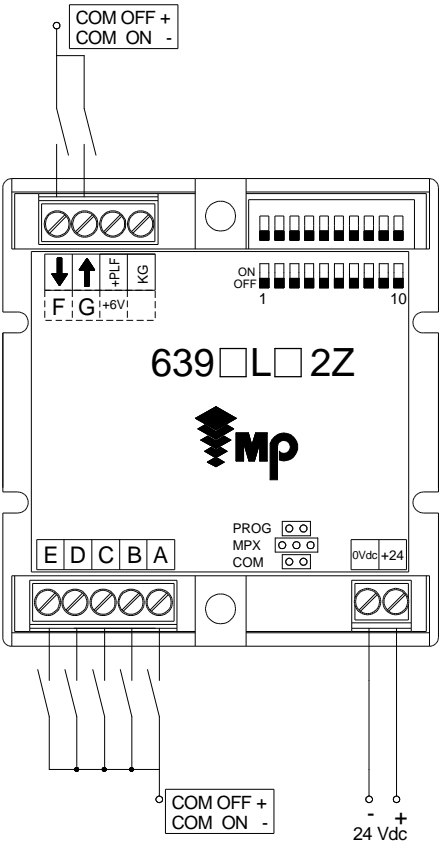

Figure 9 – Connection of Display 639
- Connections through bolt terminal strips (Figure 9):